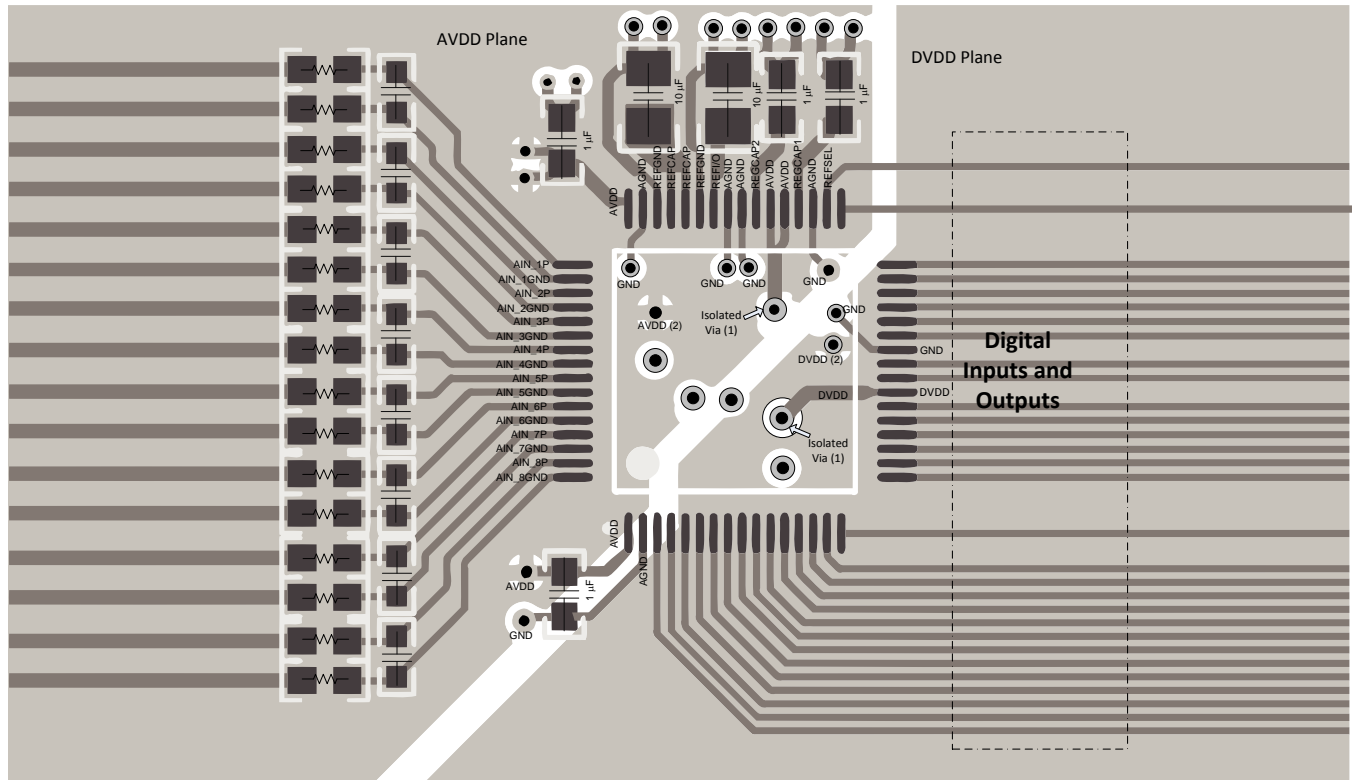
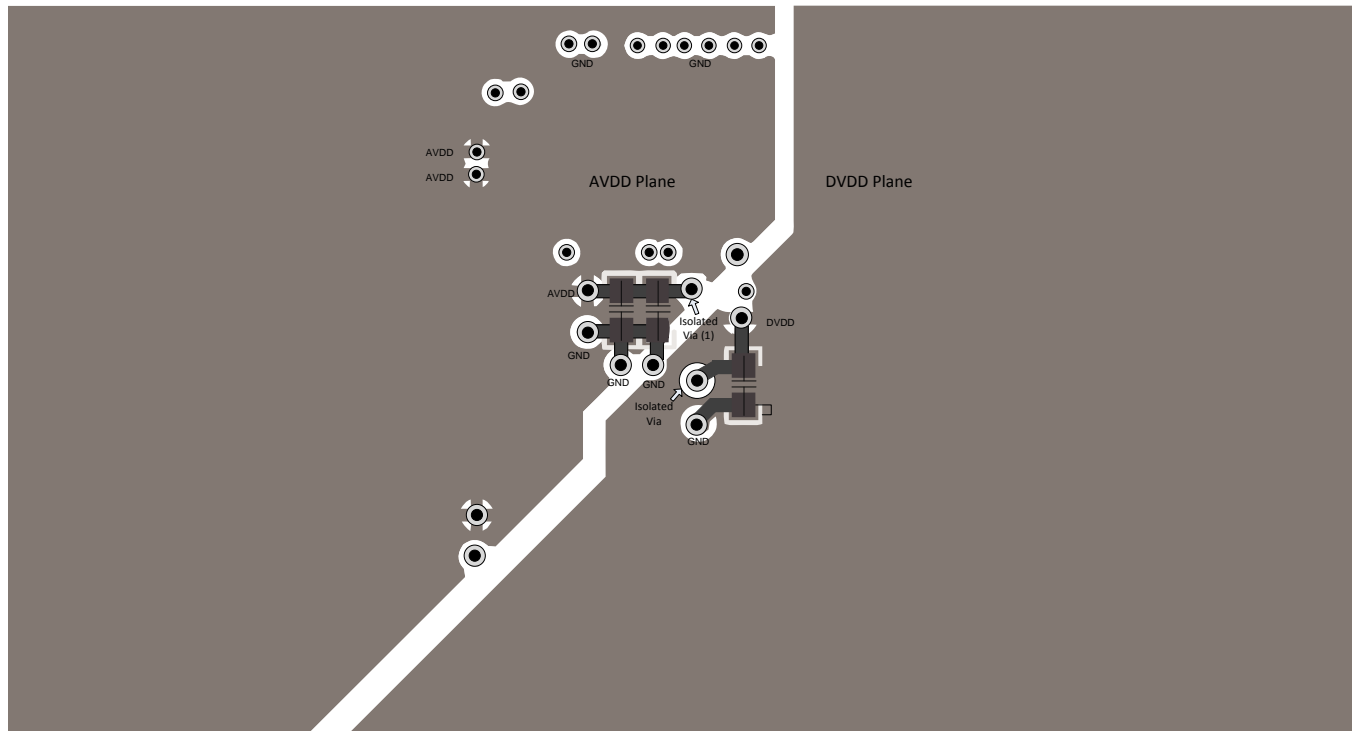

Figure 90. Top Layer Layout
Figure 91. Bottom Layer Layout
Figure 90 and Figure 91 illustrate a PCB layout example for the ADS8598S.
- Power sources to the ADS8598S must be clean and well-bypassed. As a result of dynamic currents during conversion, each AVDD must have a decoupling capacitor to keep the supply voltage stable. Use wide traces or a dedicated analog supply plane to minimize trace inductance and reduce glitches. Using a 1- $\mu$ F, X7R-grade, 0603-size ceramic capacitor is recommended in close proximity to each analog (AVDD) supply pin. Bypass capacitors for AVDD pins 1 and 48 are located on the top layer; see Figure 90. AVDD supply pins 37 and 38 are connected to bypass capacitors in the bottom layer using an isolated via (1); see Figure 91. A separate via (2) is used to connect the bypass capacitor to the AVDD plane.
- For decoupling the digital (DVDD) supply pin, a 1- $\mu$ F, X7R-grade, 0603-size ceramic capacitor is recommended. The DVDD bypass capacitor is located in the bottom layer; see Figure 91.
Figure 90 and Figure 91 illustrate a recommended layout for the ADS8598S along with proper decoupling and reference capacitor placement and connections.